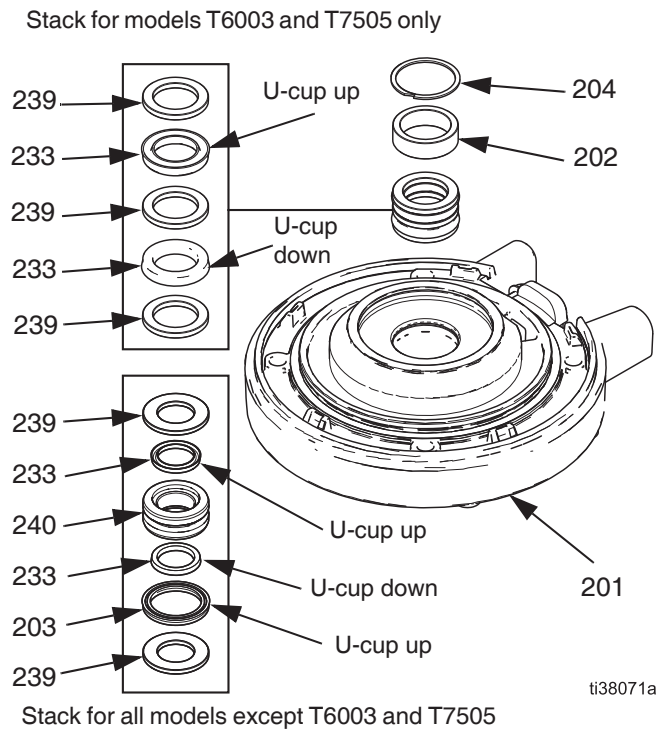

FIG. 9
1. Lubricate and install the o-ring (209) on the top cover (213). See the figure on page 26.
2. Install the upper bumper (229) on the top cover.
3. Lubricate the inside of the cylinder (211). Lower the cylinder onto the top cover (213).
4. Lubricate and install the o-ring (208) around the piston (205).
5. Slide the piston assembly down onto the cylinder (211). Be sure the o-ring (208) stays in place.
6. Install the shield (212) around the cylinder (211) and in the groove on the top cover (213).
7. **High-pressure pumps only.** Lubricate and install the u-cups (203 and 233) into the seal housing (240).
8. The arrange the seal stack as shown in FIG. 9. (low- and high-pressure pumps have different seal stack arrangements), then lubricate and install into the bottom cover (201).
9. Install the spacer (202) and retaining ring (204).